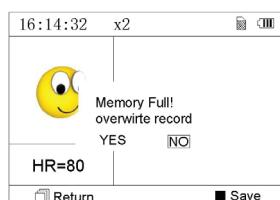

Figure 3-10
4) When the storage space is full, the device will indicate and prompt that "Memory full! Overwrite record?" with a display of " " mark as shown in Figure 3-10. Meanwhile, from now on, it won't store the new record until the user manually deletes the unnecessary data or upload the records to PC to free some memory.